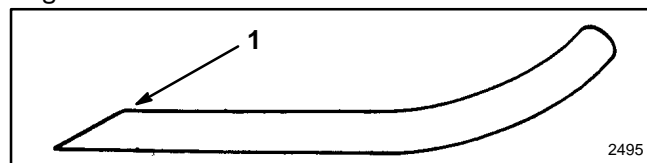

Figure 28
6. SHARPENING BLADE—Using a file, sharpen top side of blade and maintain original cutting angle (Fig. 28). The blade remains balanced if the same amount of material is removed from both cutting edges.